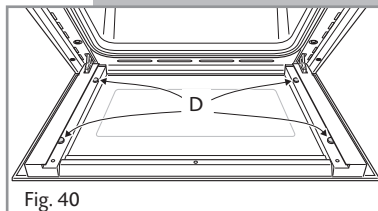

Fig. 40
- Check that the four rubber pads are in place (**D** in Fig. 40).